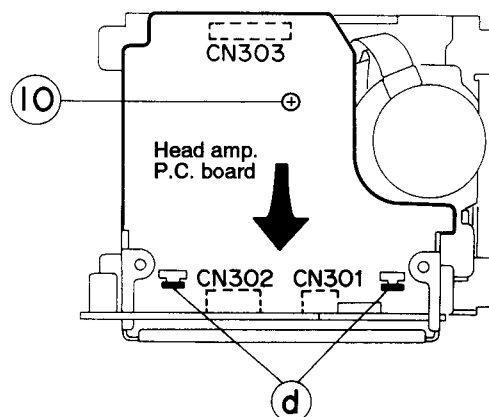

Fig. 5-14
3. Remove the one screw ⑩ retaining the head amp. P.C. board (See Fig. 5-14).
4. After lowering the head amp. P.C. board in the arrow direction, disengage the engagement ④ and remove the P.C. board (See Fig. 5-14).